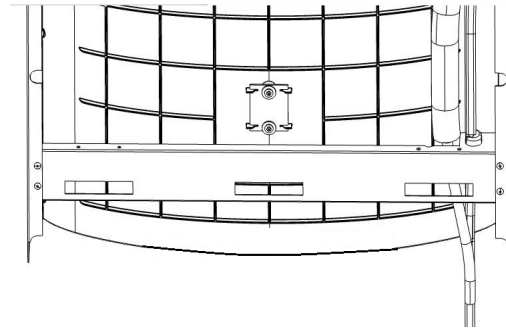

Fig. 13
- 6) Install gasket on bottom of bottle filler tower with gasket support bracket (See Fig 13).